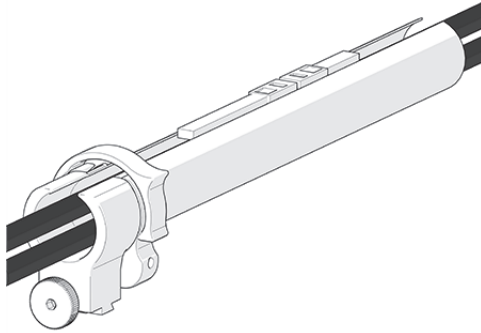

Figure 3-54 Zip opposite end
3. Once the cable is placed the entire length of tube, bring the zipper from the tube's opposite end, meeting at any point in the middle (see Figure 3-54 on page 70).